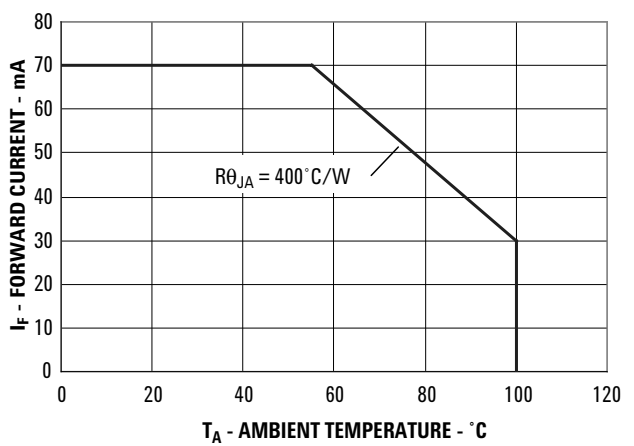

Figure 4. Maximum Forward Current vs. Ambient Temperature. Derating Based on $T_{JMAX}=130^{\circ}\text{C}$.
1. Derate linearly as shown in figure 4.